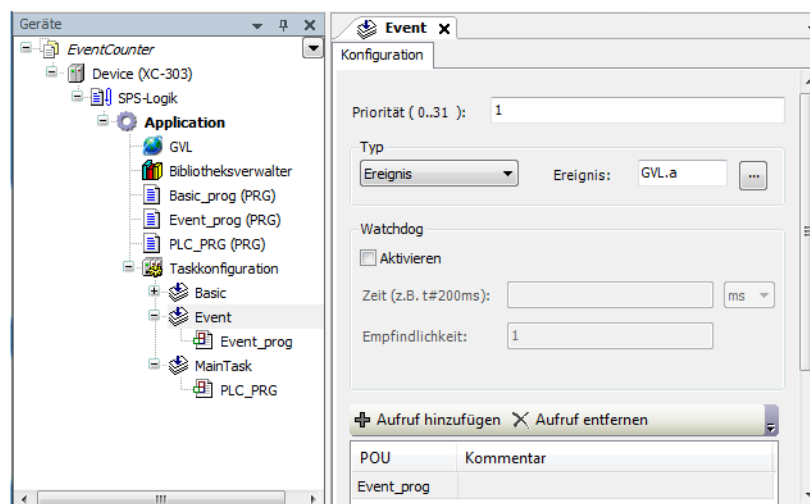

Figure 50: Creating an event controlled task
- ▶ Create a task of type "Event" named "Event" as shown in Figure 50.